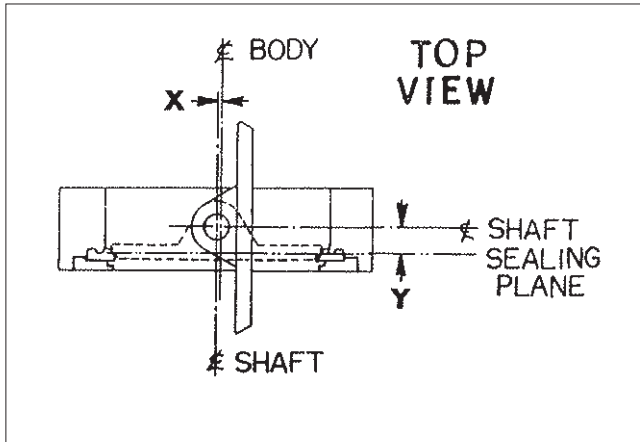

Figure 5. VIII Actuator Mounting
One of the design features of the *Wafer-Sphere* valve that is responsible for its superior performance is the valve's eccentric shaft design. The shaft is offset in two planes: (1) away from the valve disc centerline; and (2) behind the disc sealing plane (See **Fig. 5**).